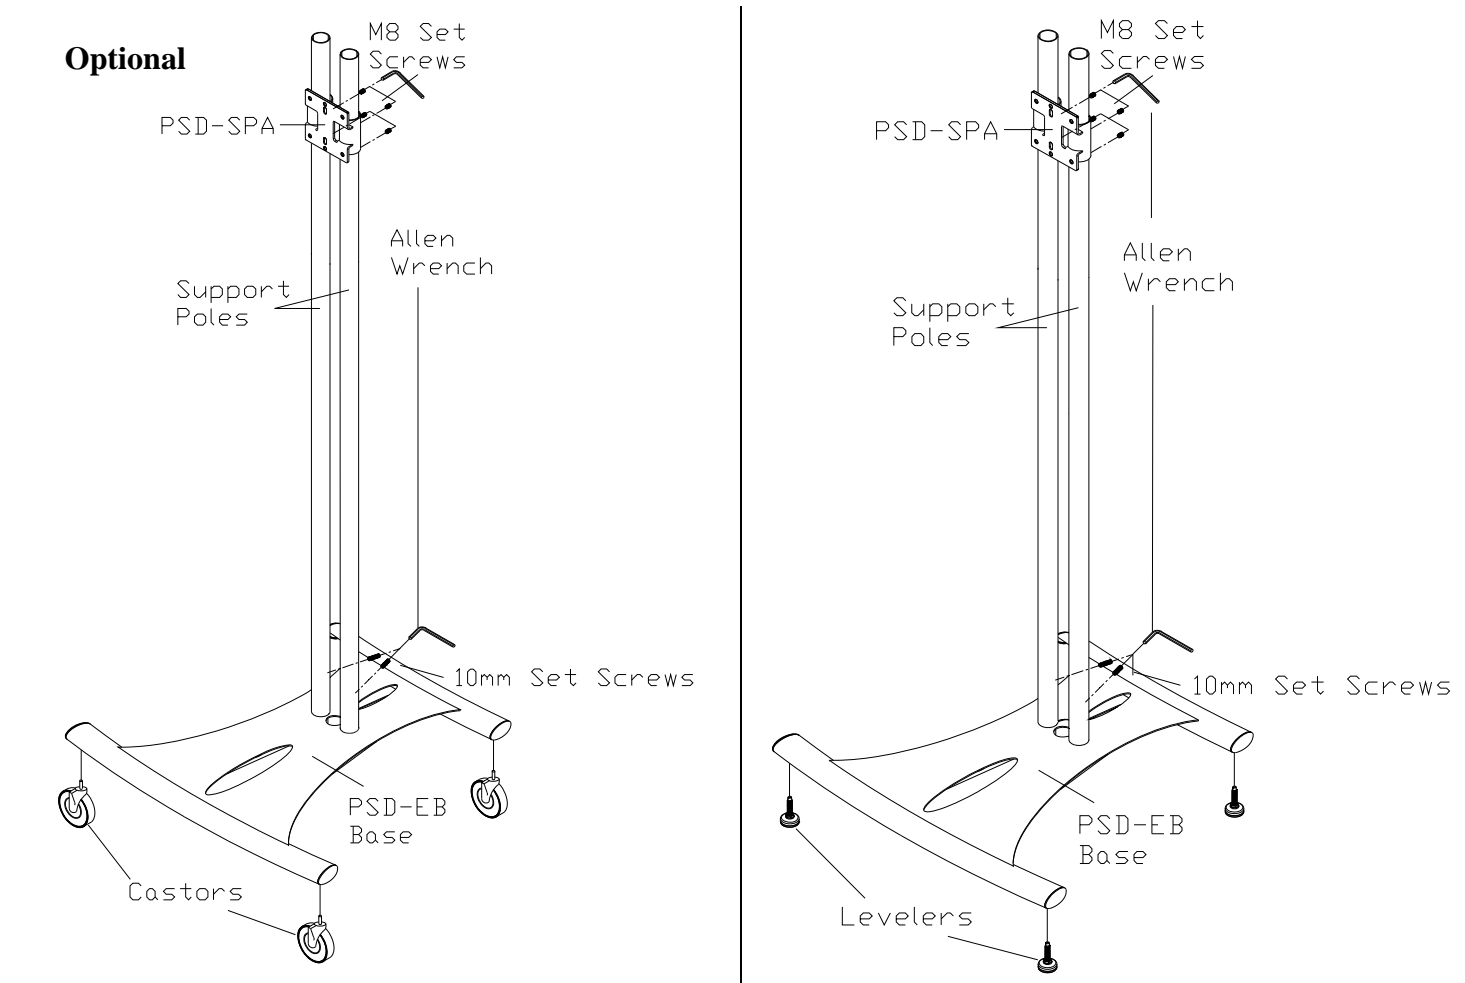

Figure 1. Support Tube Installation
Unpack the PSD-EB and review any WARNING statements that apply to the installation. Select the desired location for the PSD-EB Floor Stand. Please see Figure 1 for layout.
3. Insert the set screws into each hole and tighten with the supplied Allen wrench (Figure 1).
4. **OPTIONAL:** Attach the four (4) casters by threading the bolts into the holes that are located under each leg of the PSD-EB base. Make sure that the two locking casters are mounted on the rear legs of the stand.
5. Attach the four (4) levelers by threading the bolts into the holes that are located under each leg of the PSD-EB base.